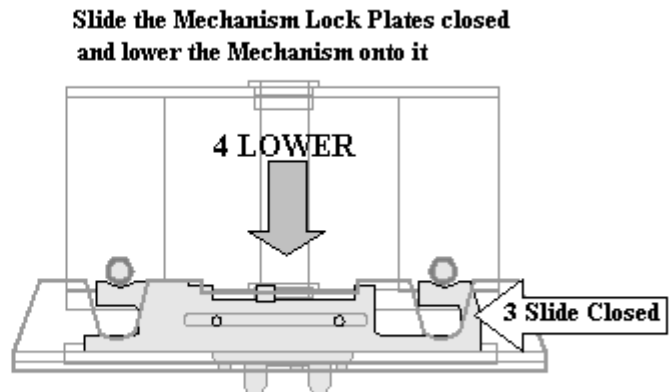

Figure 44 Place Mechanism on top of Lock
- Slide the tabs back to closed position and gently set the mechanism on it as shown in Figure 44.